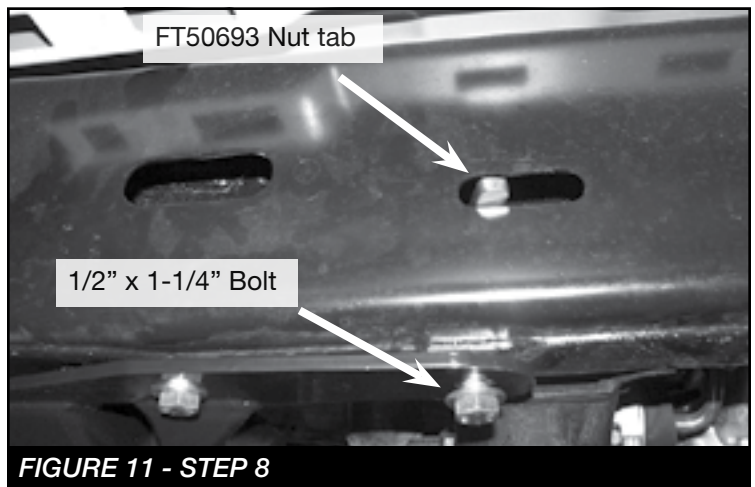

**FIGURE 9 - STEP 7**
7. **DRIVER SIDE** - Using the supplied 1/2" x 1-1/4" bolt, washer and FT44152 (Driver Nut Tab). Install the Nut tab through the factory slot on driver side of the frame. Leave loose. **SEE FIGURE 9**